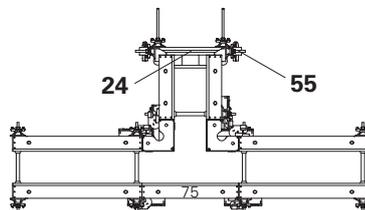

Fig. A8.02
For the arrangement and number of the horizontal Compensation Walers DAR 80 (24) and Frame Spanner (55): see Stop-end Formwork with Timber. (Fig. A8.02)